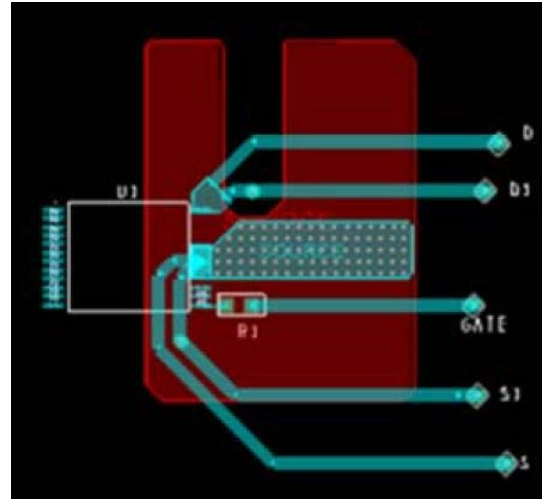

Figure 40. Thermal Resistance Test Conditions for PowiGaN Devices (INN3378C, INN3379C and INN3370C.)
Testing performed on custom thermal test PCB as shown in Figure 40. The test board consists of 2 layers of 2 oz. Cu with the InSOP package mounted to the top surface and connected to a bottom layer Cu heat sinking area of 550 mm².
4. Please see Figure 40.